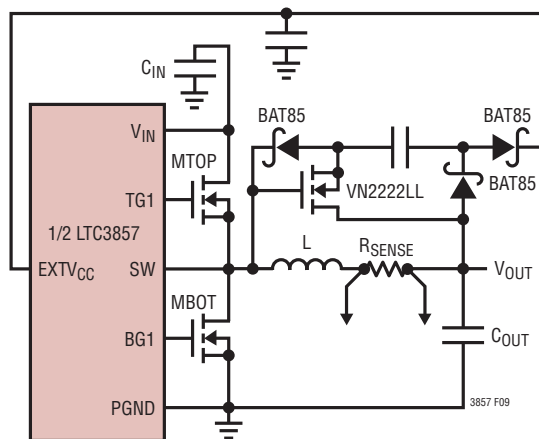

Figure 9. Capacitive Charge Pump for EXTVCC
4. EXTVCC Connected to an Output-Derived Boost Network. For 3.3V and other low voltage regulators, efficiency gains can still be realized by connecting EXTVCC to an output-derived voltage that has been boosted to greater than 4.7V. This can be done with the capacitive charge pump shown in Figure 9. Ensure that $EXTV_{CC} < V_{IN}$.